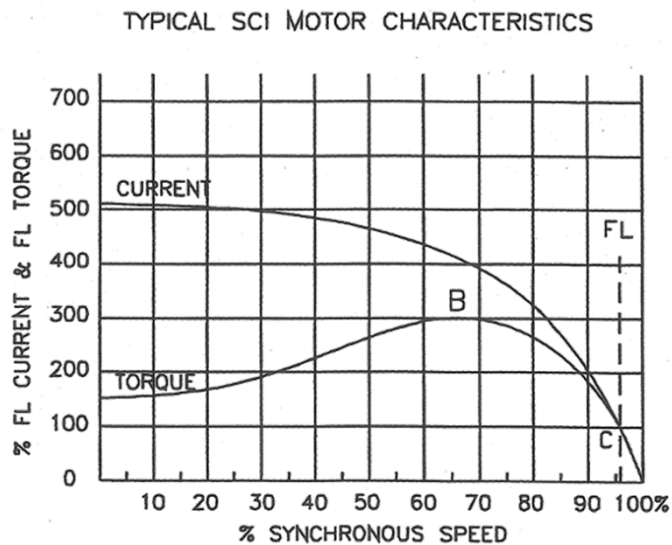

Figure 6 – Typical three-phase induction motor characteristics.
- 40. The operating characteristics of a particular type of induction motor can be shown on a graph known as a characteristic curve or performance curve. A characteristic curve for a typical general-purpose squirrel cage induction motor is shown in Figure 6.
- 41. Figure 6 shows the full load current (FLC) and full load torque (FLT) on the +Y axis, and SYNCHRONOUS speed on the +X axis.
Typical characteristics are; about 150% full load torque on starting and about 5 times full load current on starting. See Figure 6 for torque/current characteristics.